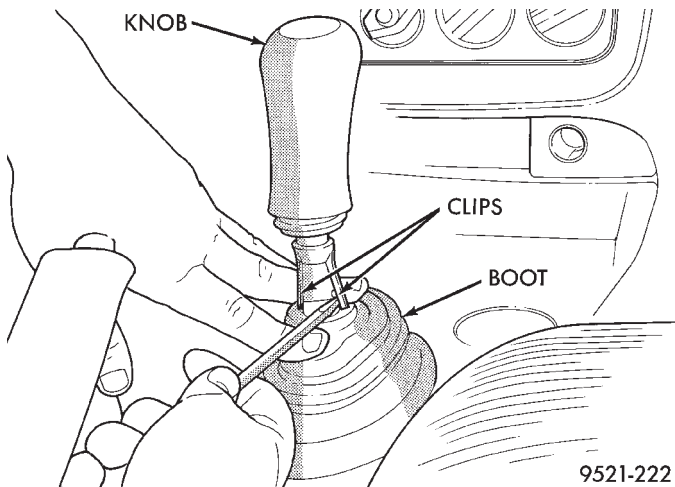

Fig. 129 Gearshift Knob
- (3) If the vehicle is equipped with a manual transmission remove the gearshift knob and shifter boot using the following procedure.
- Push shifter boot down to expose clips on gearshift knob and roll pin on shifter handle (Fig. 129).
- Pry the clips on the shifter knob away from the roll pin in the shifter handle using a flat blade pry tool (Fig. 129).